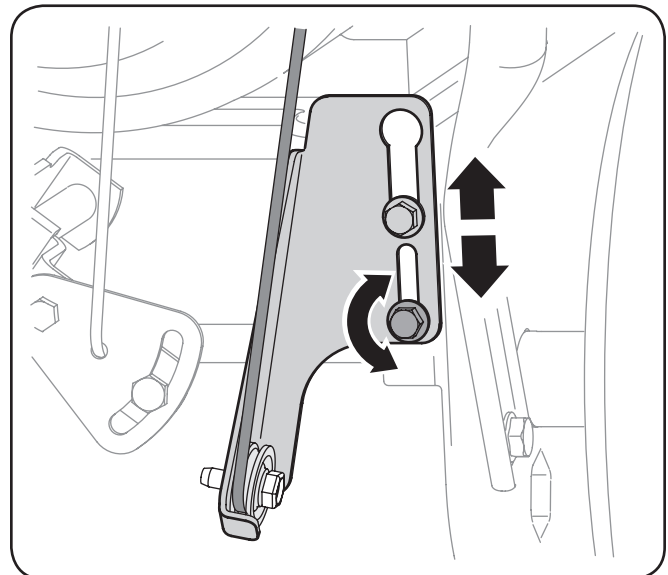

Figure 6-5
2. Loosen the lower hex screw on the drive cable bracket. See Figure 6-5.